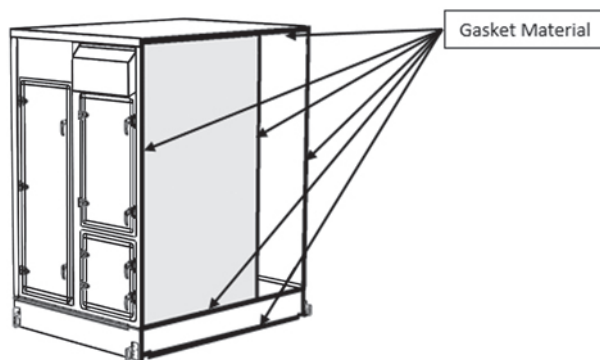

Figure 33 – Cabinet Gasket Location
- Gasket material is pre-installed at the section borders. This material should remain attached to the cabinet during the assembly process as it is important for sealing and separating the sections. See Figure 33.